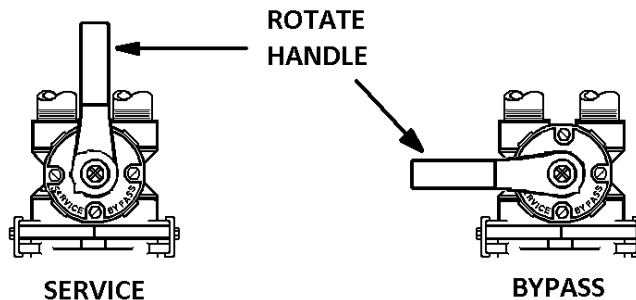

FIGURE 4: Stainless Steel Bypass Valve Operation
- STEP 9:** Place bypass valve in the "Bypass" position (refer to Figures 4 below). Open main supply valve or turn on power to pump on private well systems.
Refer to Figure 4 (page 5) for appropriate bypass valve operation. Rotate bypass lever of stainless steel bypass $\frac{1}{4}$ of the way to “Service” allowing unit to fill slowly. You should hear water trickling into the mineral tank. Filling the mineral tank in this position will force any trapped air to the drain. **When all air has been purged from the system and only water is running to the drain, slowly open the bypass valve fully to the service position.**